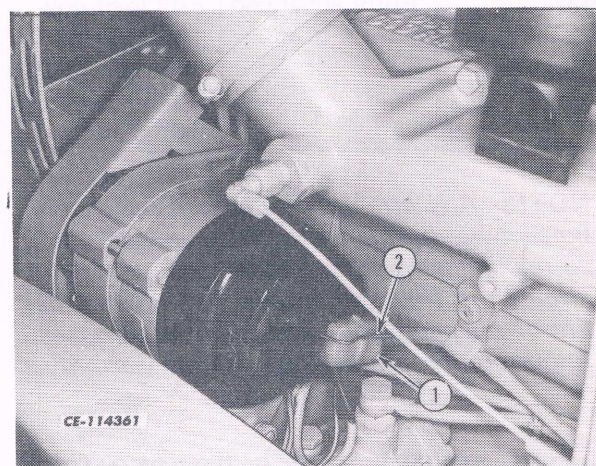

Fig. 2. Alternator Connections
6. Be sure the terminals on the back of the alternator are clean and the harness connector (1, Fig. 2) is fastened securely with the retainer (2).